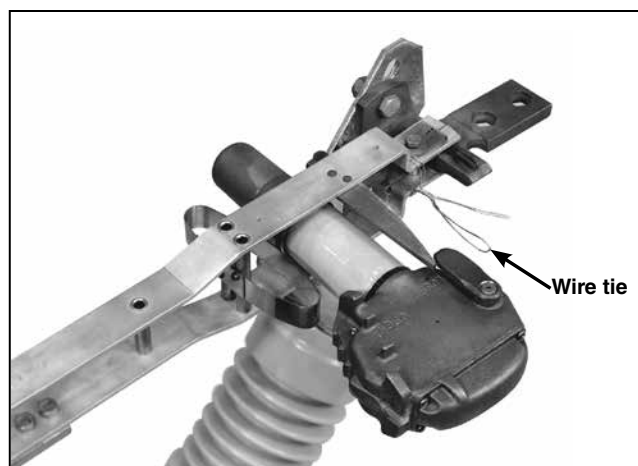

Figure 28. Removing the tie at the stationary main contact assembly.
STEP 27. Remove the ties holding the switch blades to their stationary main contact assemblies. See Figure 28.